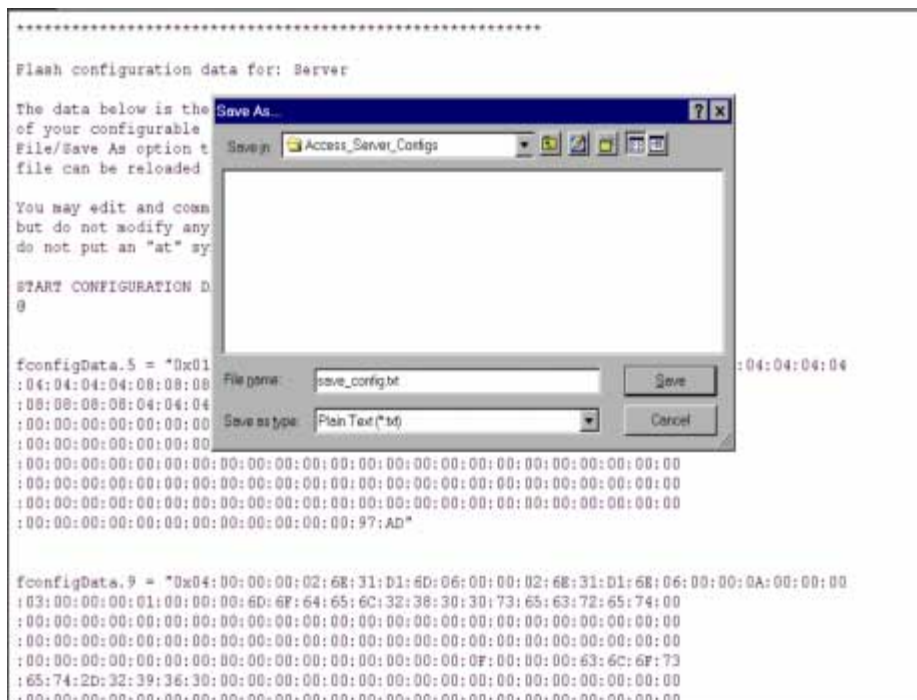

Figure 32. Saving the access server flash memory configuration data as a text file
4. To save the displayed data as a text file, select the **Save** option on your browser (see figure 32). For example, under Netscape, select **File > Save As**. A dialog box will display enabling you to save the contents of the export parameters to a text file. Select the location where you want the file stored, type a file name, and click **Save**.